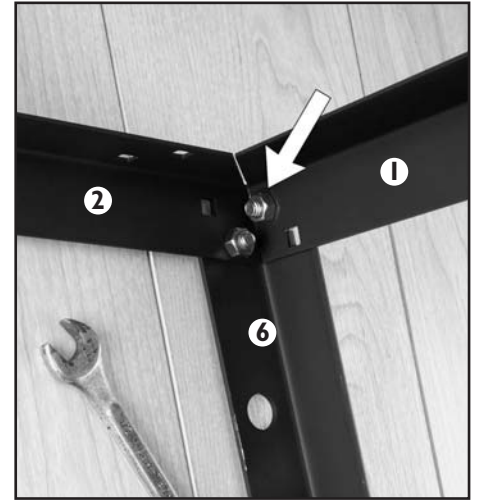

Fig. 7
7. Move to the upper right side and fasten the Upper Front Stretcher with label (1) to the right leg (6) using the hole closest to the inside corner of the leg. **Fig. 7.**